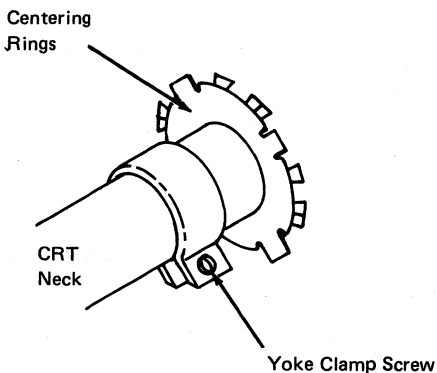

Figure 5-2. Yoke Adjustments
Disable vertical deflection by installing jumpers on the analog card test points (see Figure 4-6). Jumper test point A to C and C to B, or wrap a bare wire around all four pins. A single horizontal trace should be displayed. This trace should be parallel to, and vertically and horizontally centered on, line 1 on the alignment mask. If the trace is not parallel to line 1, the yoke must be aligned. If the trace is not centered, the centering rings must be adjusted (see Figure 5-2). In either case, the CRT cone shield must be removed before the adjustment is made.
1. Loosen the yoke clamp screw (see Figure 5-2).
5.1.3 Centering and Horizontal Width. Turn the centering rings (see Figure 5-2) to center the horizontal trace, both vertically and horizontally, on line 1 of the alignment mask. The width (length of the horizontal trace) should be 266.7 mm (10.5 inches) as indicated by line 2 on the alignment mask. It may be necessary to adjust the width potentiometer, width (80), on the analog card (see Figure 4-6) together with the centering rings.